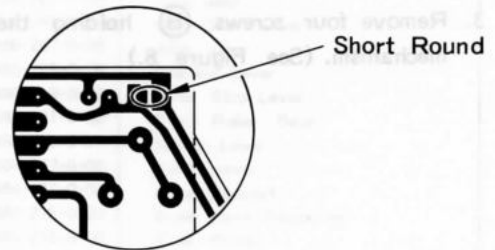

Figure 12
9. After you connect the wire connectors, desolder and remove the shorting tab. (See Figure 12.)